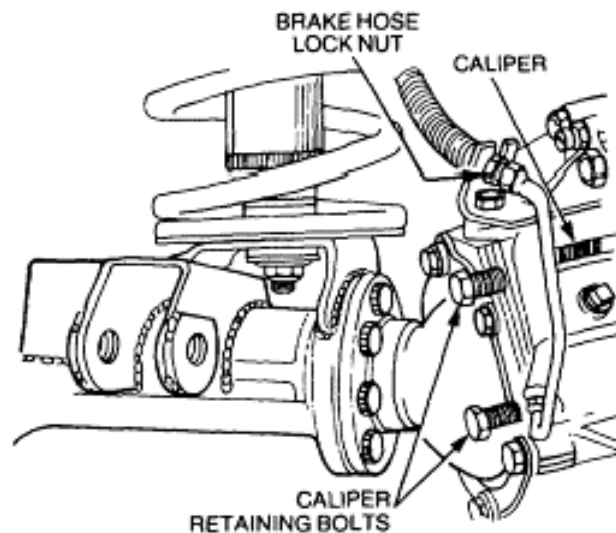

Figure 90 Brake Caliper Removal
- f. Loosen the locknut securing the brake hose to the retaining bracket (Figure 90).